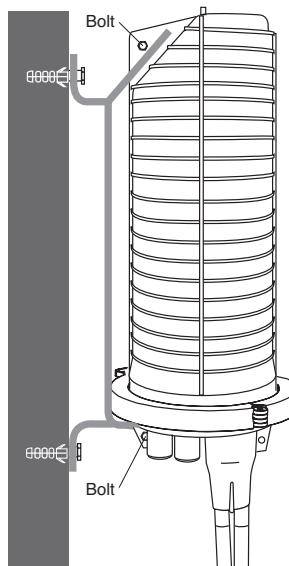

Figure 2
2. Place the FOSC 400 D5 closure on the bracket as shown in Figure 2.